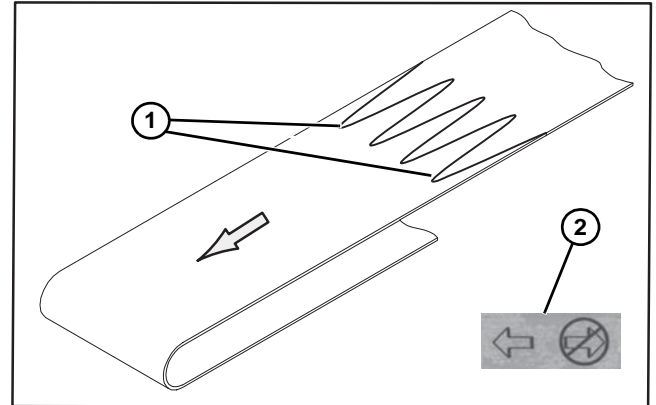

Figure 50
1. Orient belt so splice leading fingers (Figure 50, item 1) point in the direction of belt travel as identified by the conveyor directional label (Figure 50, item 2).
2. Orient belt so splice leading fingers (Figure 50, item 1) point in the direction of belt travel as identified by the conveyor directional label (Figure 50, item 2).